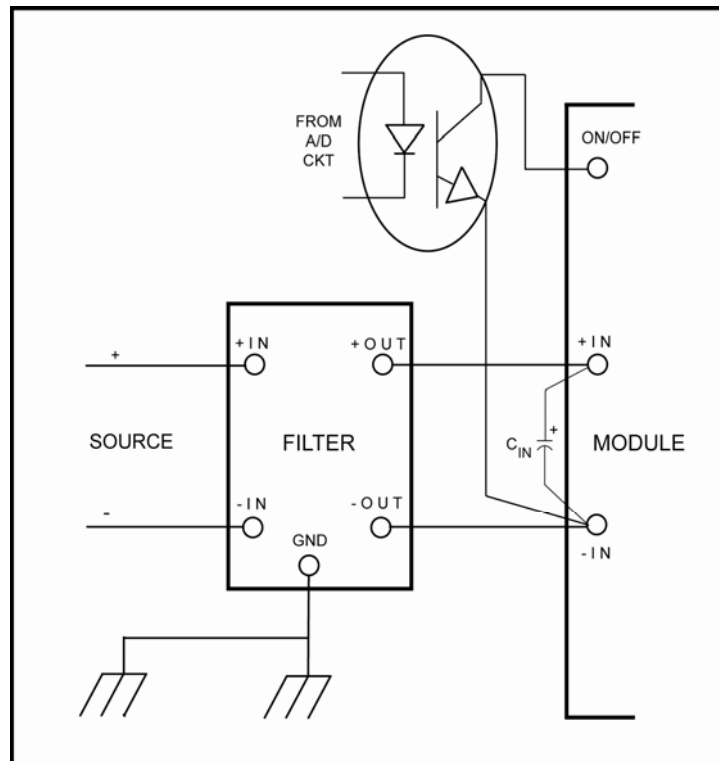
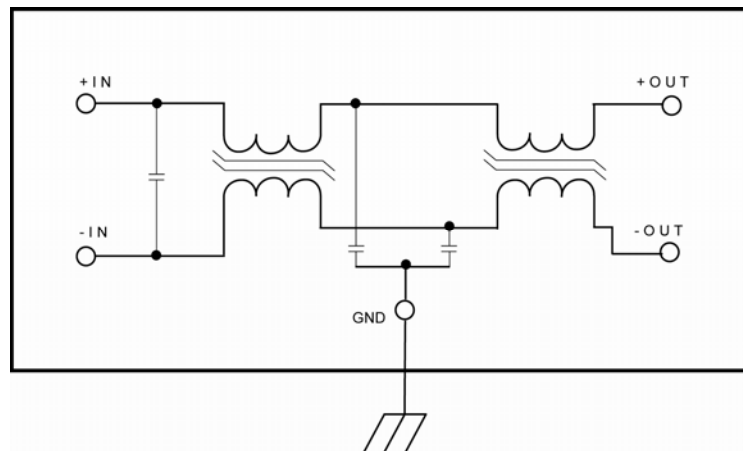

Figure 2. Use of the Shutdown Pin With Input Filters
Figure 3. Filter Block Schematic
**Fig. 3: F2410 - Differential mode attenuation, 0.2-100 MHz. Source and load resistance 50 Ω. Vertical scale: 10 dB/div, with zero level marked by arrow. No load, 25 °C.**
Differential attenuation plots for the F4810 and F2410 filters in the extended frequency range of 20 kHz-100 MHz are shown in Fig. 2 and Fig. 3, respectively, and can be seen to be flat (around 55-60 dB) from 0.35 MHz to 40 MHz.
**Fig. 2: F4810 - Differential mode attenuation, 0.2-100 MHz. Source and load resistances are 50 Ω. Vertical scale: 10 dB/div, with zero level marked by arrow. No load, 25 °C.**